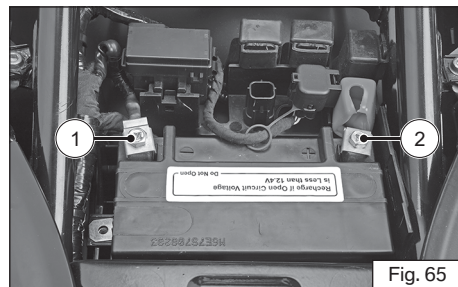

Fig. 65
- ♦ Disconnect the negative terminal (1) first followed by the positive terminal (2) (ref. Fig. 65). Carefully take out the battery.